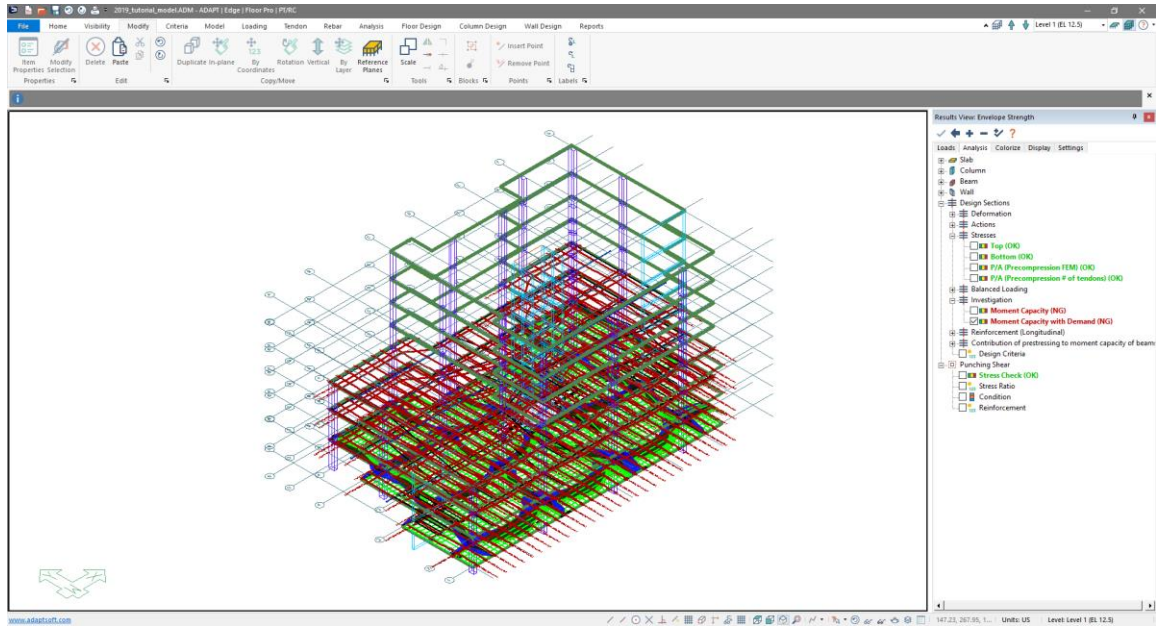

Figure 9-12710
- Click on the *Top-Front-Right View* icon  in the **Camera and Viewports** Toolbar. This will bring you to the view of the model shown in **FIGURE 9-12710**.